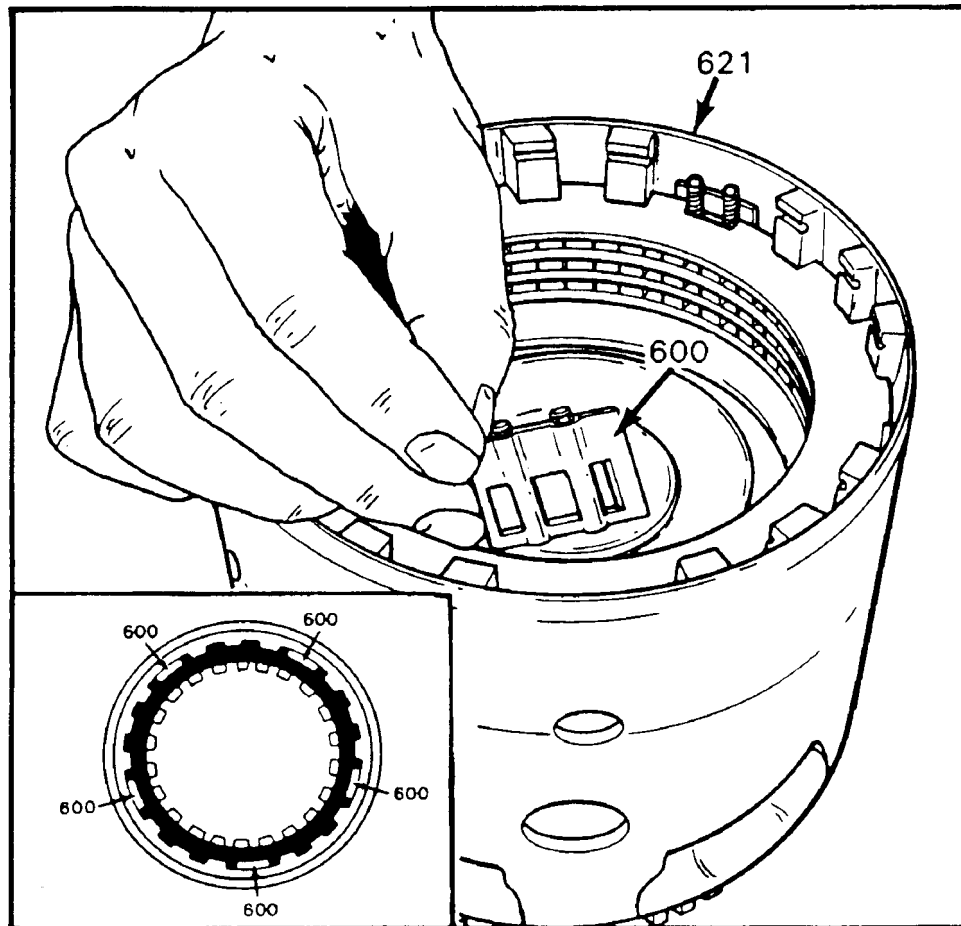

Figure 5
6. Re-install the 3-4 Load Release Springs in the late design stack-up (See Figure 5).